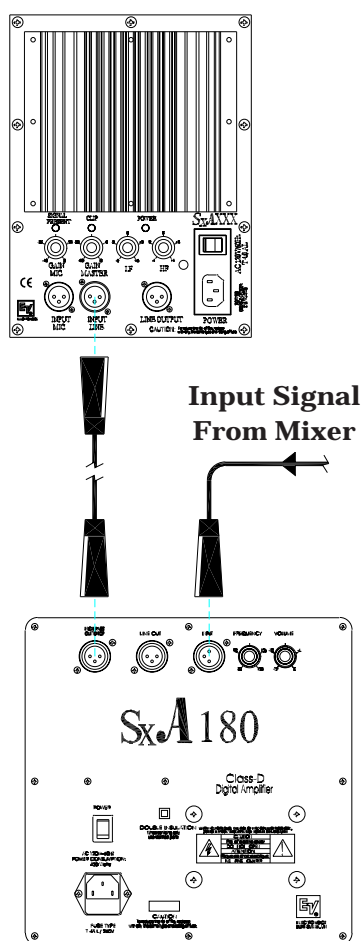

Figure 5:
- If you are using the SxA180 with an SxA two-way system, you will want to use the high-pass output to run the signal from the SxA180 to the two-way (See Figure 5). Using the filtered output will insure that the SxA180 only is reproducing low bass information which will let the two-way system sound cleaner and play louder. The unfiltered output is the best way to parallel the signal to other SxA180s or if you want more mid-bass output from the speaker setup.